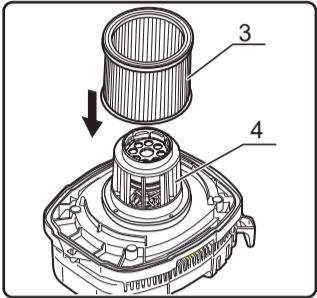

fig.4-1
- Fit the wet/dry cartridge filter(3) and screw on the filter lock(9) till tight. (fig.4-1, 4-2)